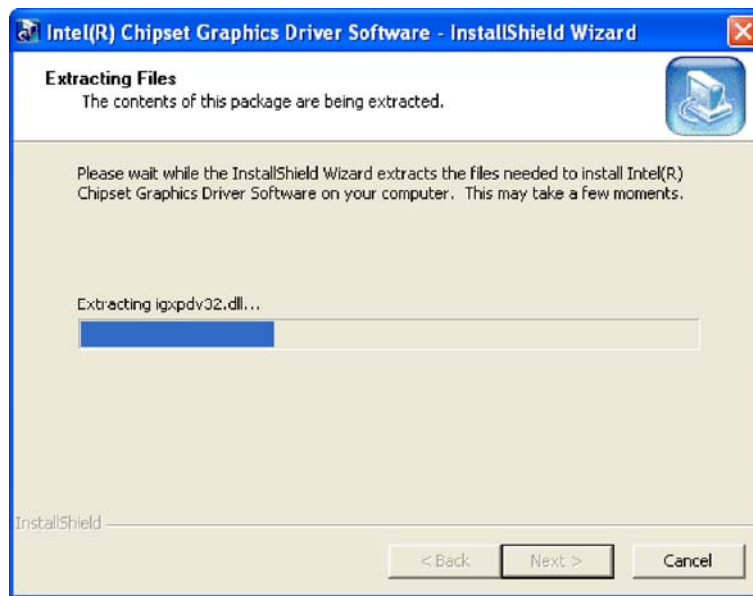

Figure 7-7: VGA Driver Setup Files Extracted
Step 20: The installation files are extracted. See Figure 7-7.